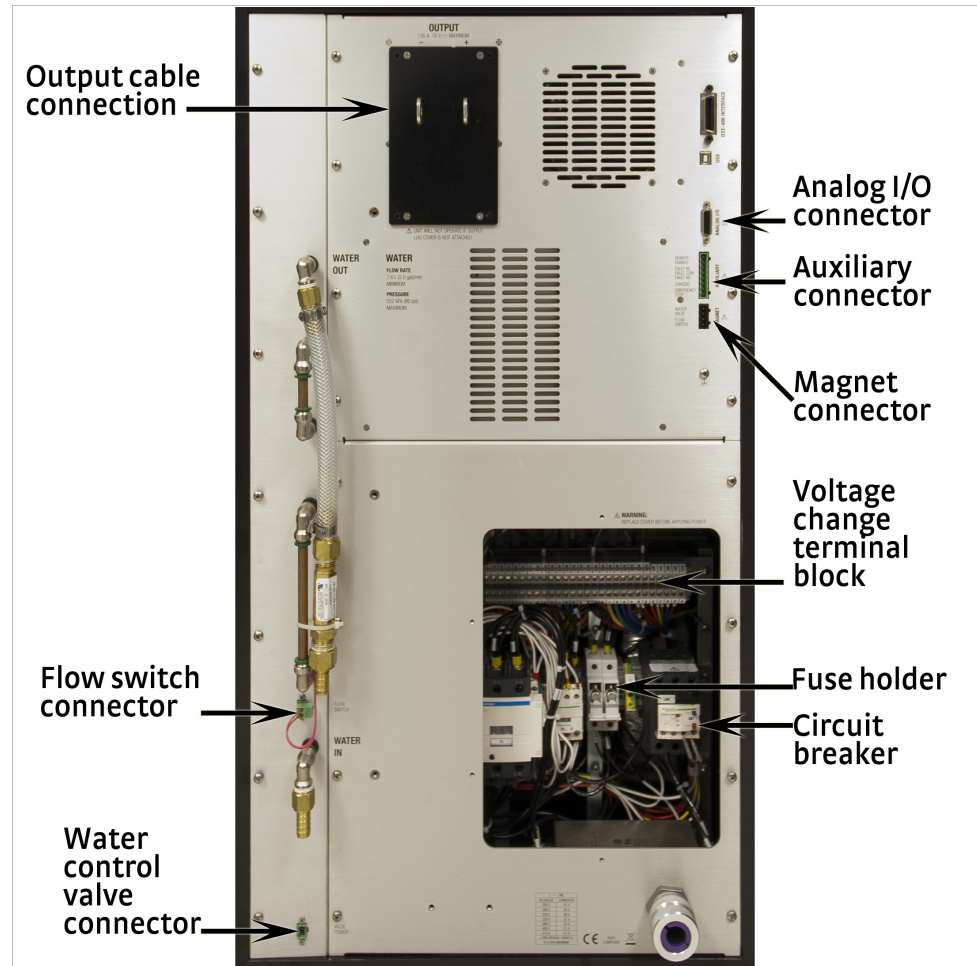
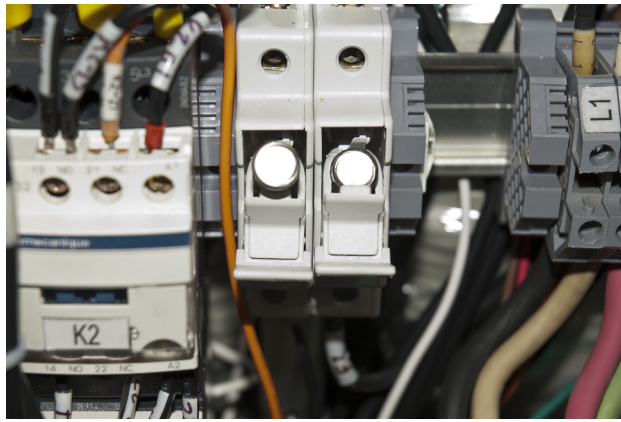

FIGURE 6-2 Model 648 rear panel: Left: Bottom half (shown with wiring cover removed); Right: Top half
FIGURE 6-5 Fuse drawer
The Model 648 may be configured for seven basic AC power configurations: 200 VAC, 208 VAC, 220 VAC, 230 VAC, 380 VAC, 400 VAC, and 415 VAC. Proper voltage selection must be made before connection to the power mains. Each configuration requires the appropriate wiring within the power wiring access panel on the rear of the instrument. Nominal line voltages and appropriate selections are shown in TABLE 6-1. Refer to section 3.4.1 for further details. See FIGURE 6-2 for general locations.
5. Refer to FIGURE 6-2 to locate the fuse detailed in FIGURE 6-5.
- Locate the two fuse holder assemblies as shown in FIGURE 6-2 and in FIGURE 6-5.
- Check the fuse for continuity. Replace fuse(s) if necessary. Fuses should be replaced in pairs. Fuses are inserted small-end first as shown (FIGURE 6-5).